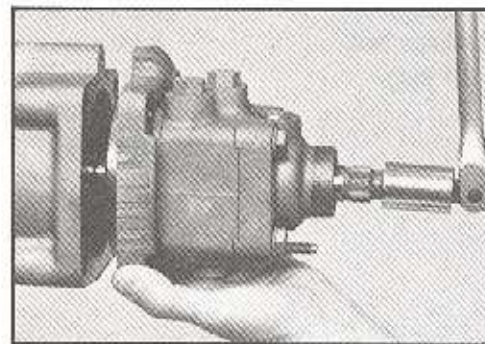

Figure 60
17. Rotate worm shaft (25B) until adaptor (20) moves away from housing (47), about 3/4 inch (19 mm) and let drain. SEE FIGURE 60.